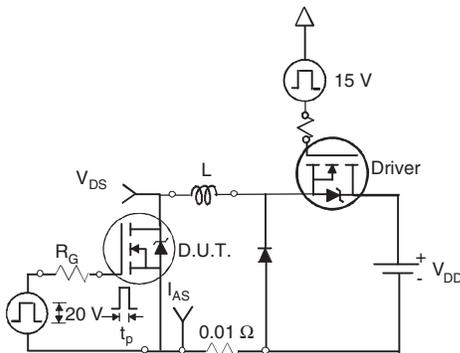

Fig. 12a - Unclamped Inductive Test Circuit
- Starting $T_J = 25\text{ }^\circ\text{C}$, $L = 5.7\text{ mH}$, $R_G = 25\text{ }\Omega$, $I_{AS} = 14\text{ A}$, $dV/dt = 7.6\text{ V/ns}$ (see fig. 12a).